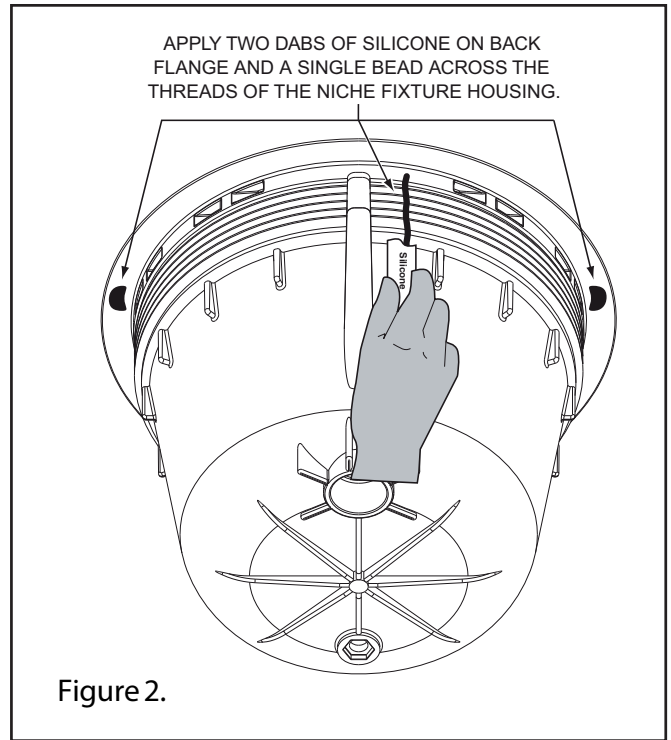

Figure 2.
- E. Apply two dabs of clear silicone. (P/N 630023, included with the niche) on the back of the flange and a single bead across the threads of the niche housing. See figure 2.